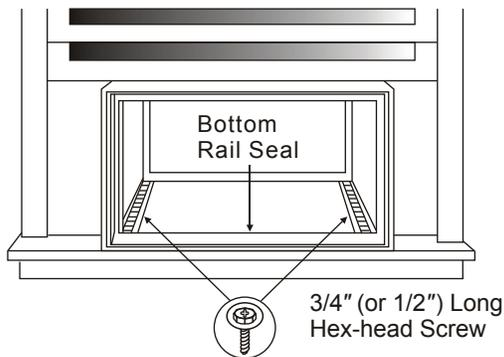

Fig.13
5. Add bottom rail seal over screw to window sill. (See Fig. 13 on next page.)